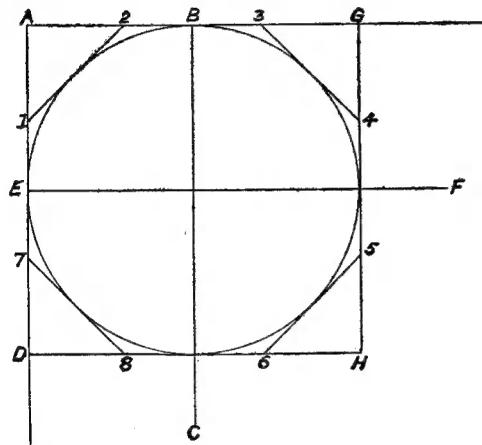

Fig. 3. Setting out to rough out a disc from square material
In Fig 3 (A) is the corner of the plank, in which the end (AD) is proved to be square to the side (AG), and both side and end square to the face of the wood. At a distance (AB)— $\frac{1}{4}$ in. short of the height of lathe centre in the gap, if any—draw the pencil line (BC) parallel to (AD), and the same distance (E) from (A) draw (EF) parallel with (AG). From the intersection of these as centre, sweep out the circle, touching the side and end at (B) and (E). From (G), which is (2AB) from (A) draw (GH) parallel with (AD) and touching the circle; similarly from (D)
Fig. 9 shows on bed a special faceplate chuck, found almost as it appears, with a projecting boss at back, which has since been bored and threaded to fit the writer's lathe. It is ideal wood (thought to be Canadian birch) to turn and screwcut. It carries dead central a $\frac{1}{8}$ in. \times 16 (Whitworth standard) flanged nose from which it was nose-threaded, and, when mounted, runs truly all ways. It has been used to clamp and carry discs held by nut and washer on the centre screw. It is thought to be part of some kitchen accessory and is 5 $\frac{1}{2}$ in. diameter. Recently a 4 in. disc, holed $\frac{1}{8}$ in., and roughed out as in Fig. 3, was turned dead truly on it.